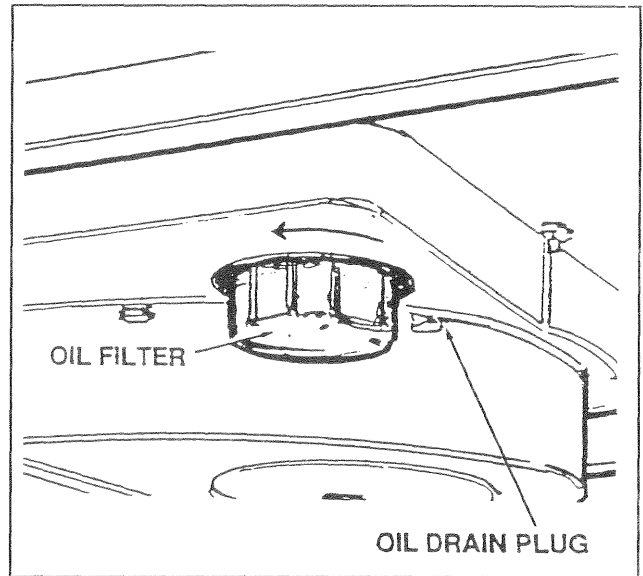

Figure 4 — Oil Drain Plug and Engine Oil Filter
- With engine still warm from running, clean area around oil drain plug and remove oil drain plug (Figure 4). Drain oil completely into a suitable container.